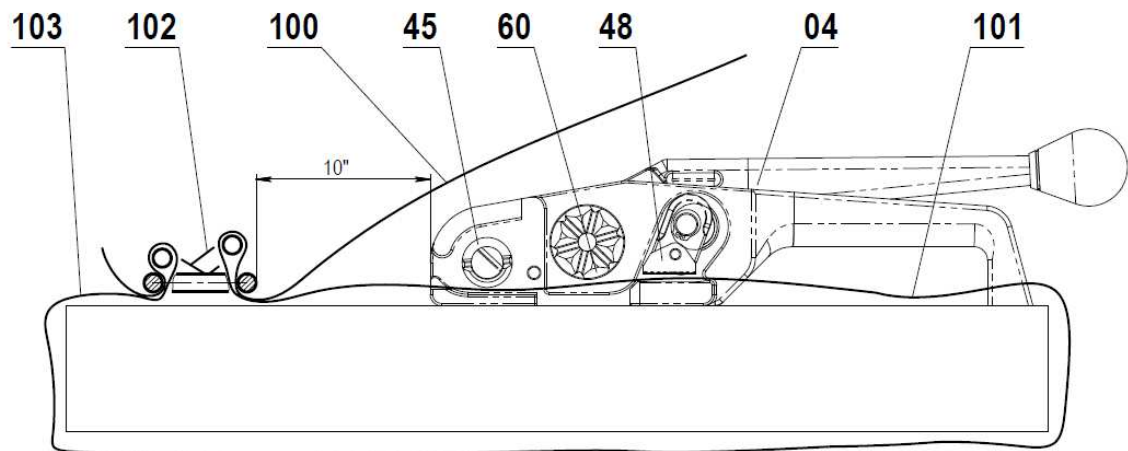

Fig. 2
1. Wrap the strap around the package. Load one end of the strap **103** into the **Buckle 102**. Load the other **End 100** into **Buckle 102**. Manually, take out the excess strap by pulling on **End 100**. Place the **MUL-325** approximately 10" from the **Buckle 102** as shown on Fig. 2.